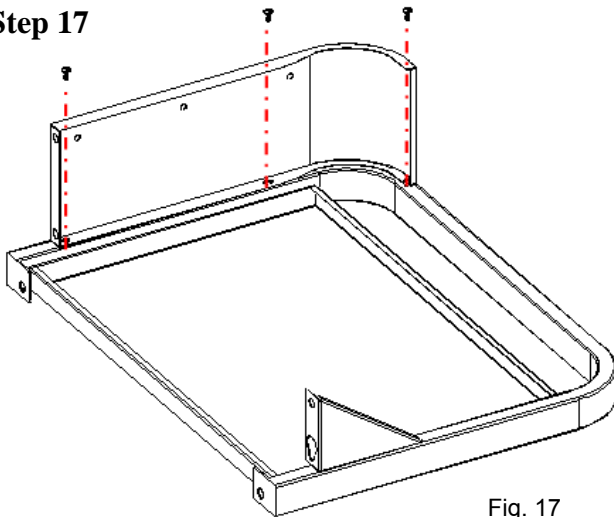

Fig. 17
*Locate:* Side Shelf Control Panel Assembly, Side Shelf and (3) M4x8 bolts
*Procedure:* Attach the Side Shelf Control Panel Assembly to the Side Shelf using (3) M4x8 bolts as shown as Fig. 17.